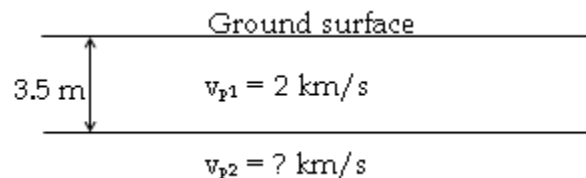

Fig.1
6. In a two-layer soil system (as shown in Fig. 1), the velocity of the wave in layer 1 is 2 km/s. The critical distance is equal to 3 times the distance from the source where 1st refraction ray reaches the ground surface. Determine the critical distance and velocity of the wave in layer 2. Assume that $v_{p2} > v_{p1}$. [Answer: 12.12 m, 4 km/s]